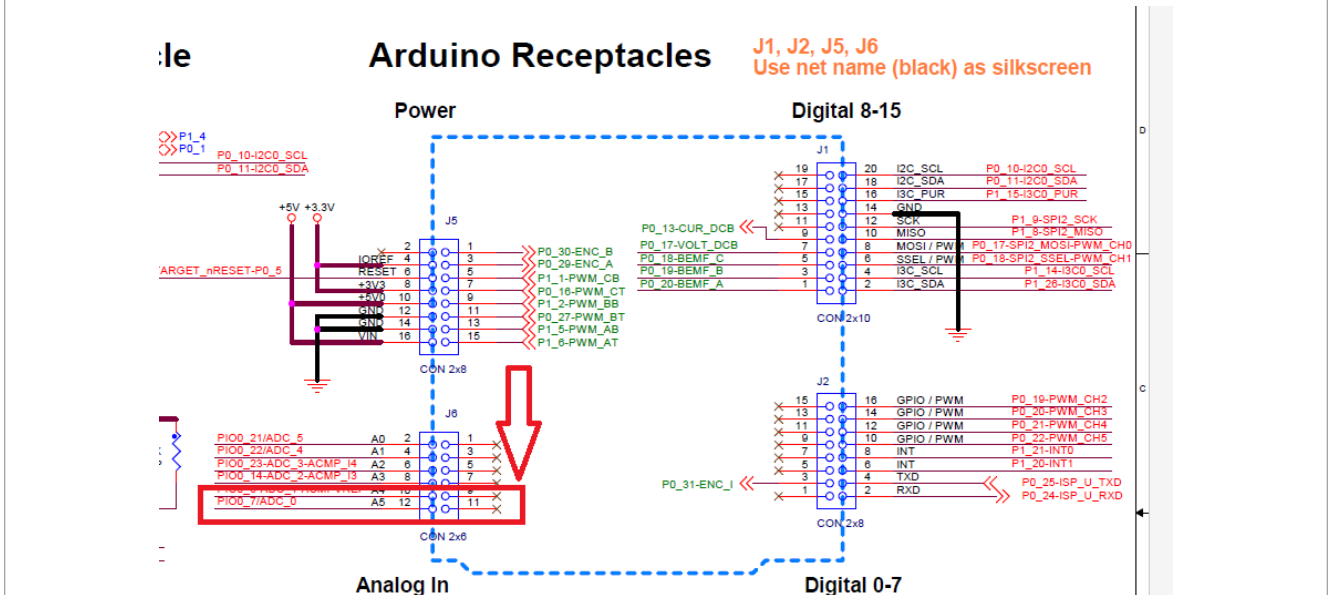

Figure 5. P0_7 (ADC_CHN0, J6-12) used in this example in LPCXpresso860-MAX board
2. Connect to function generator or any other ADC input source (Figure 5 shows the PIO0_7/ADC_0 position).